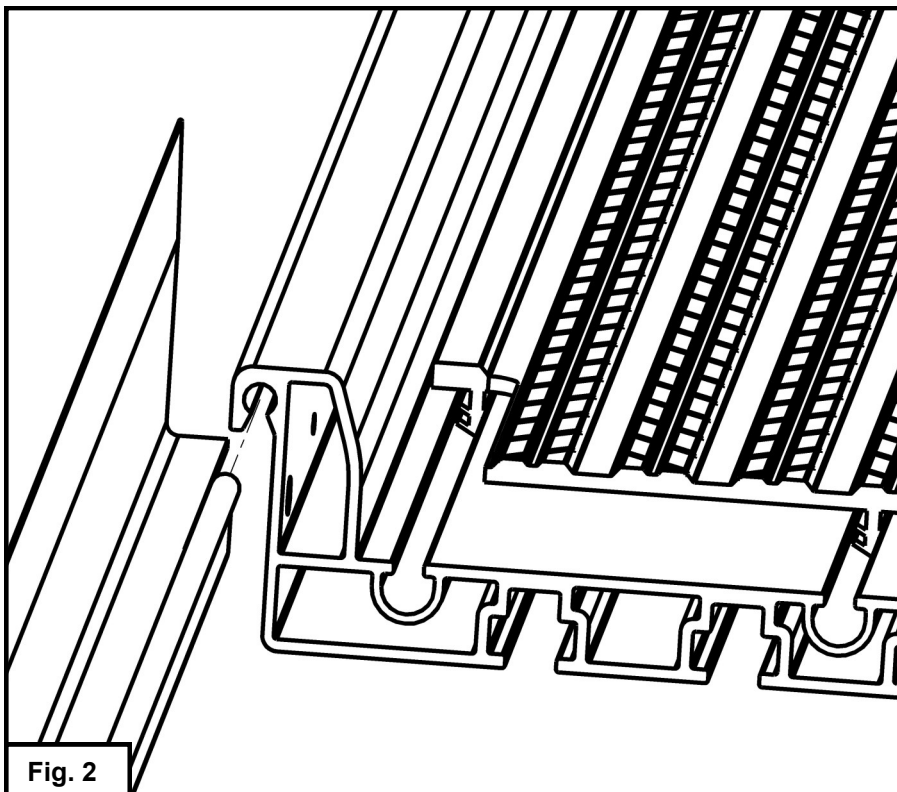

Fig. 2
2. Slide a Close Out Panel (4) into the groove in the back of the Aluminum Extrusion (3). See **Figure 2**.